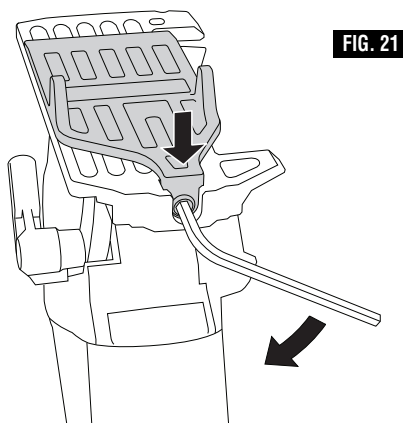

FIG. 21
3. Insert attachment into the foot as shown in figure 21.
4. Tighten screw into the attachment with allen wrench provided with tool kit as shown in figure 21.